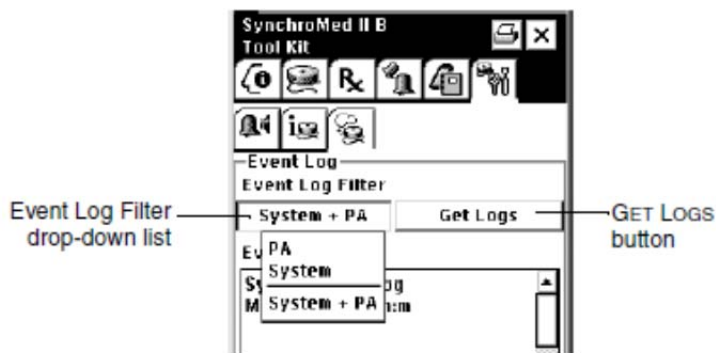

Figure 56. Viewing event logs.
3. If event logs have not been read from the pump during the current programming session, position the programming head over the pump, then select the GET LOGS button (Figure 56).
4. Select the events to be viewed from the Event Log Filter drop-down list (Figure 56).